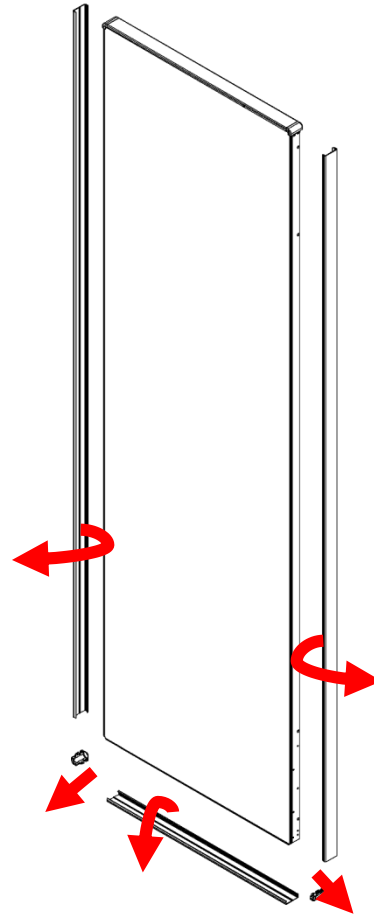

fig 5.1
- ① Take all parts out of packing.
- ② Place the display panel with front face up on the operation platform (2 persons).
- ③ Remove the left and right external frames, bottom frame, left and right corner bent plates in order. Please refer to fig 5.1.